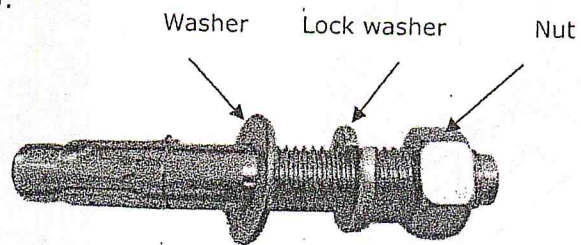

Fig. 14
1. Prepare anchor bolts (See Fig. 14).